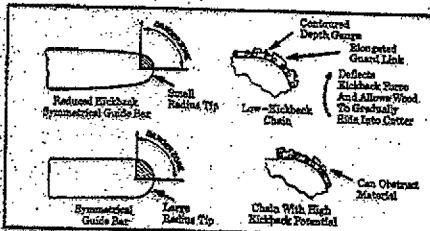

Figure 5
- Reduced-Kickback Guide Bar, designed with a small radius tip which reduces the size of the kickback danger zone on the bar tip. Figure 5. A Reduced-Kickback Guide Bar is one which has been demonstrated to significantly reduce the number and seriousness of kickbacks when tested in accordance with the safety requirements for gasoline powered chain saws as set by ANSI B175.1 - 1985 (American National Standards Institute, Inc., Standard B175.1 - 1985).
- Low-Kickback Chain, designed with a contoured depth gauge and guard link which deflect kickback force and allow wood to gradually ride into the cutter. Figure 5. Low-Kickback Chain is chain which has met kickback performance requirements of ANSI B175.1 (Safety Requirements for Gasoline-Powered Chain Saws) when tested on a representative sample of chain saws below 3.8 cubic inch displacement specified in ANSI B175.1.